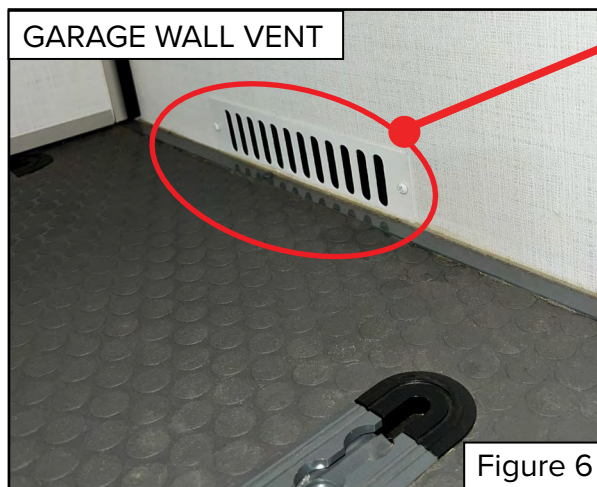

Figure 6
7. Line up the vent located on the garage wall with the vent opening on the rectangle air passageway, located on the backside of the platform base (Figure 6).